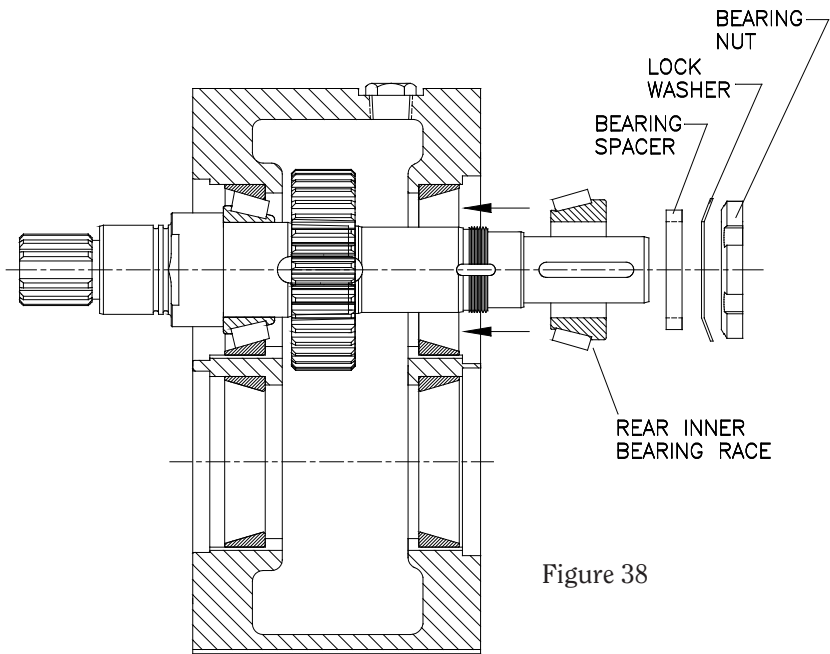

Figure 38
f) Heat the inner race of the rear bearing to no more than 300°F (580/600: 400°F) and quickly slide on the shaft (Figure 38). Hold the bearing in place for a few seconds so the bearing has a chance to cool.
lock nut washer and the bearing lock nut onto the shaft (Figure 38). Hand tighten the nut with the spanner wrench.